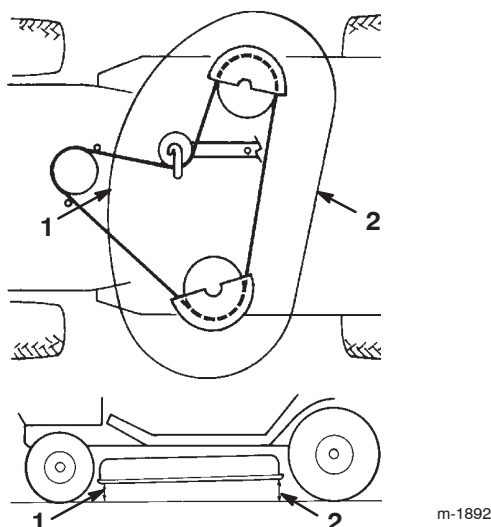

Figure 51
9. Check the front-to-rear slope by measuring between the bottom of the mower (front center and rear center) and the flat surface (Fig. 51). If the front is not within a range of 1/8 to 3/8 in. (3 to 10 mm) lower than the rear, adjust it.